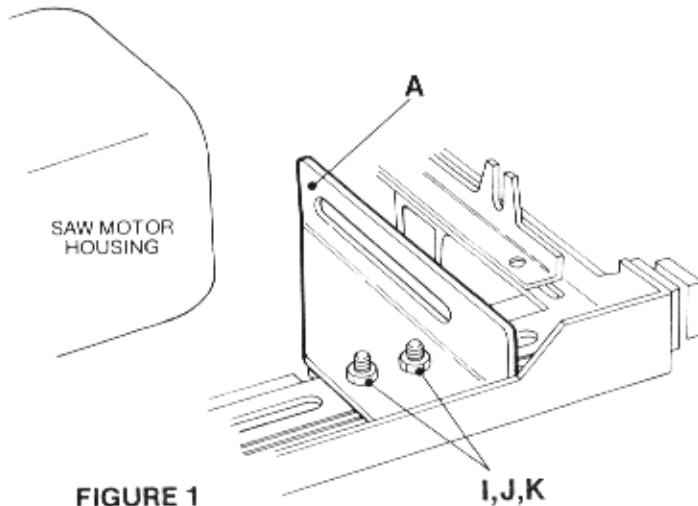

FIGURE 1
1 Loosely fit the **base bracket (A)** onto the slide chassis as in **Figure 1**, so that its vertical section is in line with or just clear of the end of the saw's motor housing.